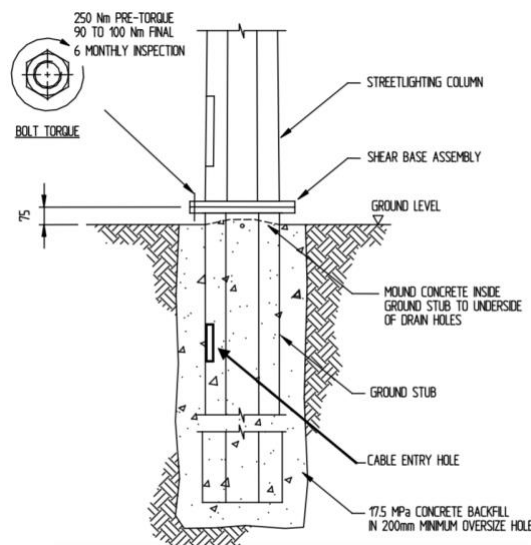

Figure 10: Typical cross-section of slip base system on level ground (image from NZTA TM-2007, modified)
4. If concrete is placed inside the ground stub it is important that the level should be just below the drainage holes near the top of the stub to aid water drainage. See Figure 10 below.